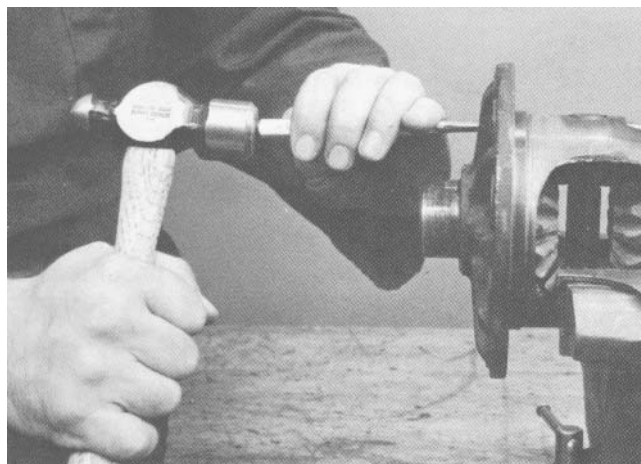

Figure 15
7. Put the case in a vise. Drive the lock pin out of the pinion shaft (Fig. 15). Use a small drift punch as shown.